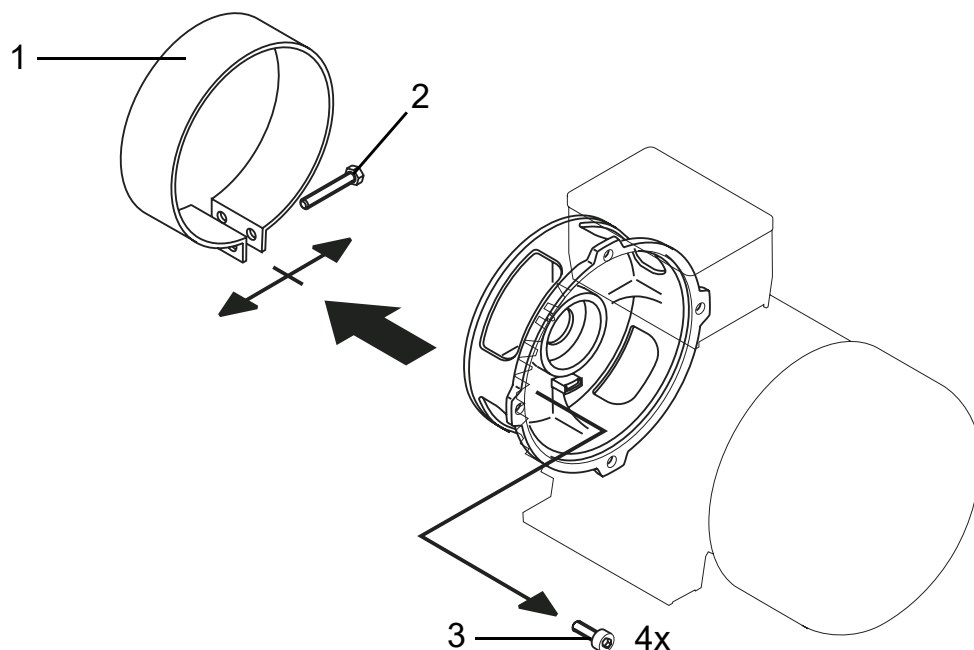

Fig. 16 Preparatory disassembly of for flange mount
- ⇒ **Fig. 16, Preparatory disassembly of for flange mount (dual-bearing, BG 132 model with standard bearing plate), page 57**